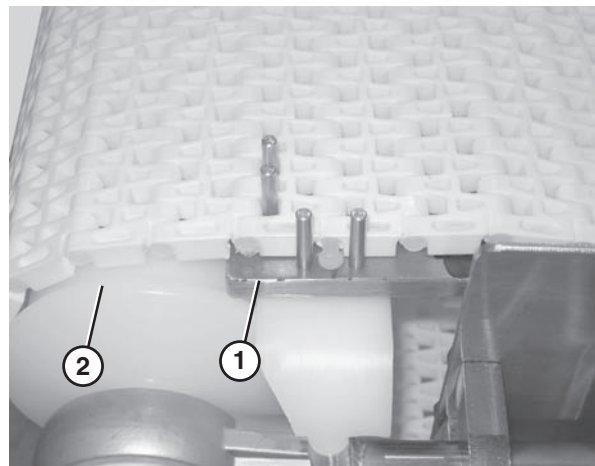

Figure 49
2. Secure the retaining head side of the belt. Use the belt removal tool (**Figure 49, item 1**) for 1" pitch belts. For all other belts, position the section of belt so that it is braced by the flanged puck (**Figure 49, item 2**).